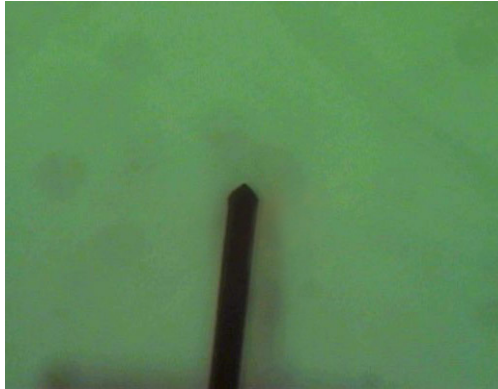

Figure 73 Tip in focus through video system
- c Adjust the focus and x-y alignment of the video system such that the tip is in sharp focus (Figure 73).